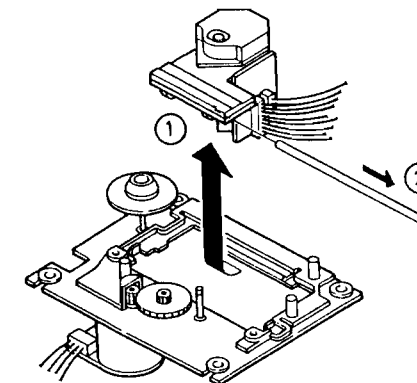

Figure 9
4. Take out the pickup (1). Then pull out the shaft (2). (See Figure 9)